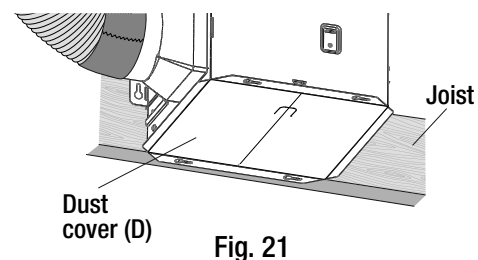

Fig. 21
- Once you are satisfied with your installation, protect the fan motor from construction dust and debris with the supplied dust cover (D) until construction is completed. See figure 21. Do not install the dust cover in finished construction. Do not operate the fan with the dust cover in place as it will damage the motor.